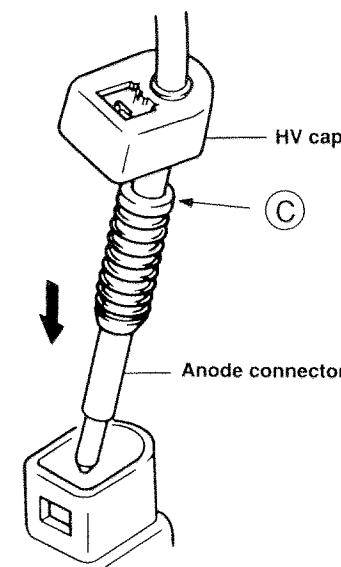

Fig. 7
2. Remove the HV cap and remove the anode connector (Fig. 7).
1. Insert the anode connector deep into the FBT (to section (C) in Fig. 7) and then push the HV cap into the FBT until it clicks.